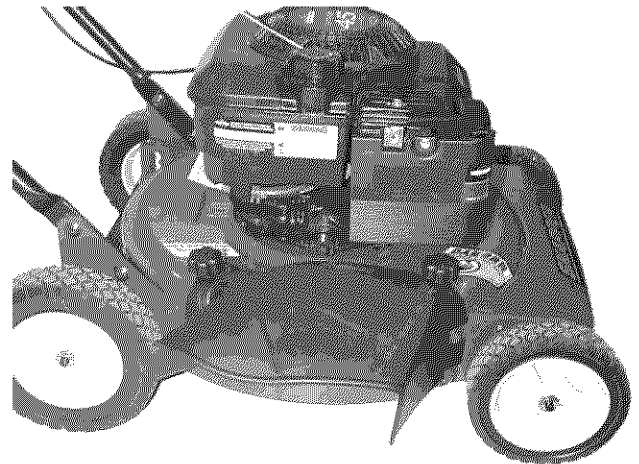

FIGURE 2.10
4. Using hardware removed in Step 2, insert bolt with head on inside of deck into bottom rear hole of discharge deflector. Secure to deck with nut. See Figure 2.10.